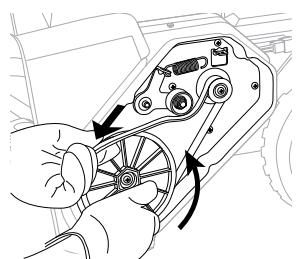

Fig. 14C
4. Remove the drive belt by slowly turning the auger pulley counterclockwise while pulling the belt outwards (Fig. 14C).